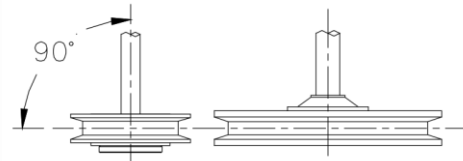

Figure 8
4. To align belt, lay a straight edge against the face of the compressor sheave (flywheel) touching the rim at two places. (Figure 8)